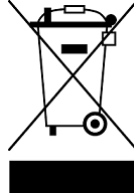

Figure 11. Replacing the Batteries
1. Remove the red rubber casing and plastic casing as shown in Figure 11.